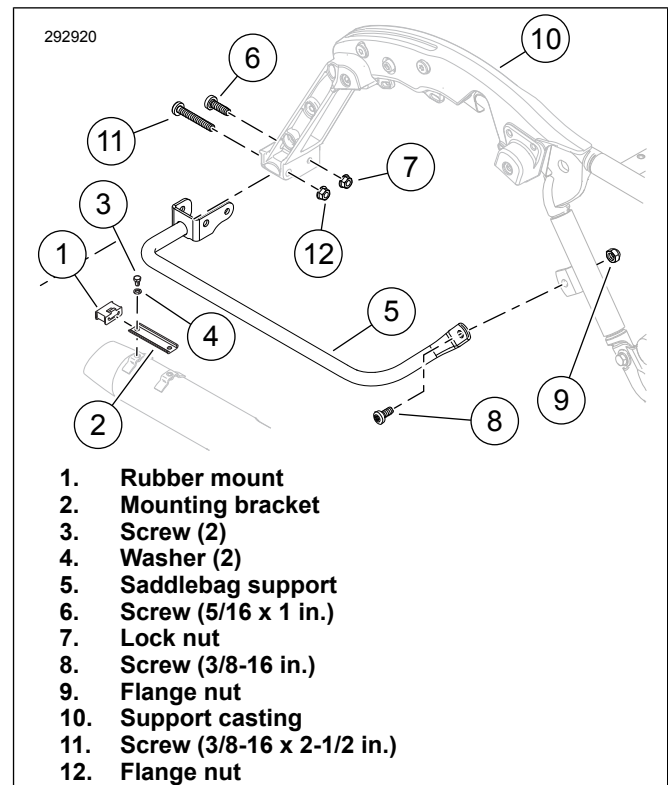

Figure 3. Support Mounting Bracket
1. See Figure 3. Remove both saddlebag supports (5).
- a. Remove and retain screws (3), washers (4), mounting bracket (2) and rubber mount (1).
- b. Remove screw (6) and lock nut (7). Retain screw (6).
- c. Remove screw (8) and flange nut (9). Retain screw (8).
- d. Remove screw (11) and flange nut (12). Retain screw (11).